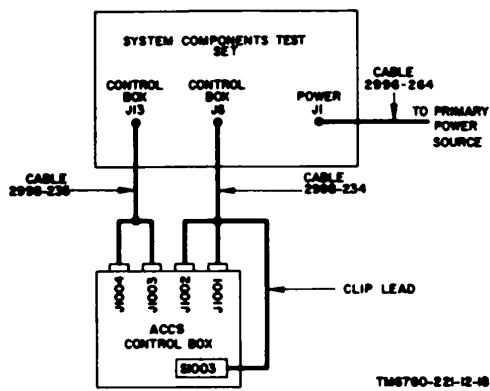

Figure 18. Connection diagram for testing ACCS control box.
- (1) Set the POWER switch in the PANEL POWER section to ON. The AC and DC indicators should light. After 20 to 60 seconds, the READY indicator should light.
- (2) Momentarily actuate the OVERRUN TEST switch in the AMPLIFIER, KA-39A FLASH DETECTOR, OVERRUN section. The OVERRUN indicator should light for the duration of the overrun circuit output pulse.
- (3) The PULSE TIMER clock should indicate from 2 to 10 seconds. Turn off all power and disconnect the test setup.
- a. *Connections (fig. 18).*
- (1) Connect cable 2998-235 to connector J13 on the system components test set and connectors J1003 and J1004 on the ACCS control box.
- (2) Connect cable 2998-234 to connector J6 on the system components test set and connectors J1001 and J1002 on the ACCS control box.
- (3) Connect cable 2996-264 to connector J1 on the system components test set and to the primary power source (para 23).